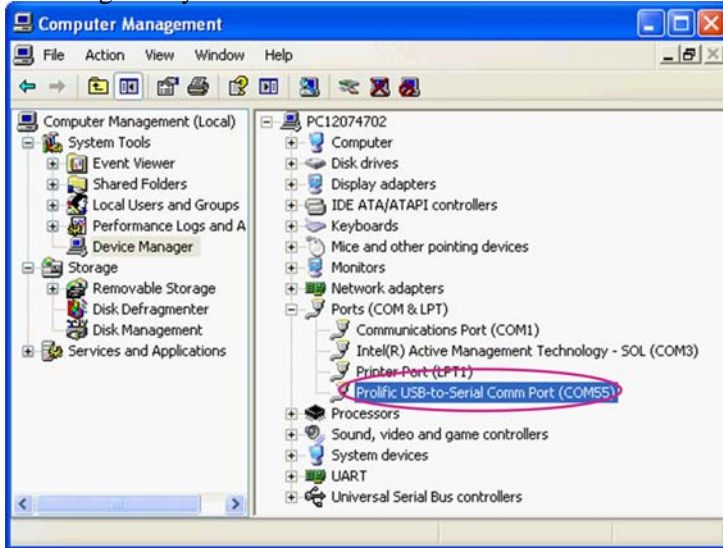

Figure 2. Device COM port for logging on your PC
5) On Windows 7 and 8, click **Device Manager**. On Windows XP, click the **Hardware** tab and then **Device Manager**. In **Device Manager**, navigate to **Ports (COM & LPT)** (see Figure 2). A new COM device should appear under **Ports (COM & LPT)** in **Device Manager**, as shown in Figure 2. Note the COMx port number of the **Prolific USB-to-Serial Comm Port**, this information is needed to complete configuration of the SDK. Use that port to send log from your LinkIt 2523 HDK.